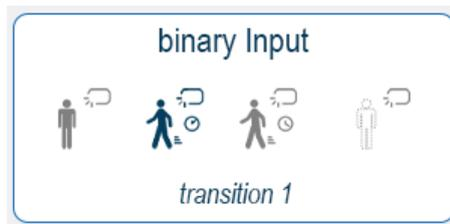

Figure 4.2 State 2 transition 1.
- **State 2:** Transition 1 (See Figure 4.2)